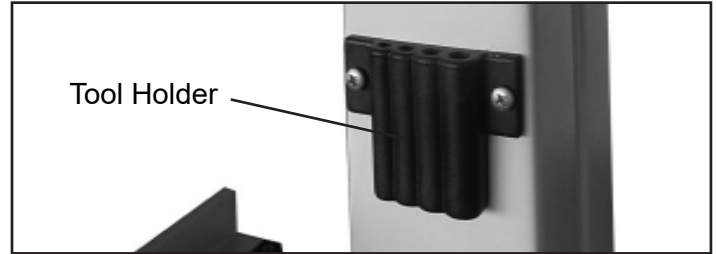

FIG. 10
Storage for the “L” hex wrenches is provided for quick access when adjustments are needed. Mount the tool holder onto the rear column with the two screws provided (#40A, 41A). Place the (4) hex wrenches (3, 4, 5 and 6mm) in the tool holder on the rear column support. FIG. 10.